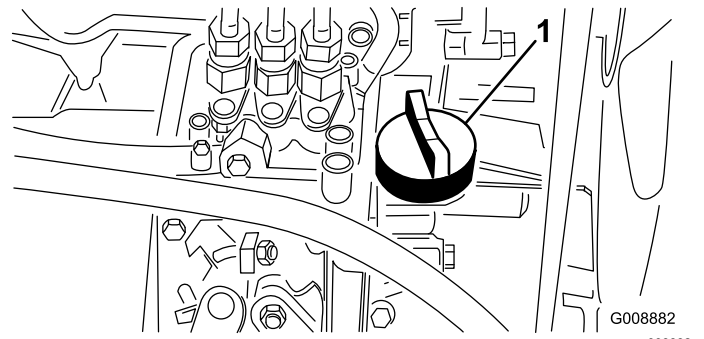

Figure 28
4. If the oil level is low, remove the oil-fill cap (Figure 28) and gradually add small quantities of oil, checking the level frequently, until the level reaches the Full mark on the dipstick.